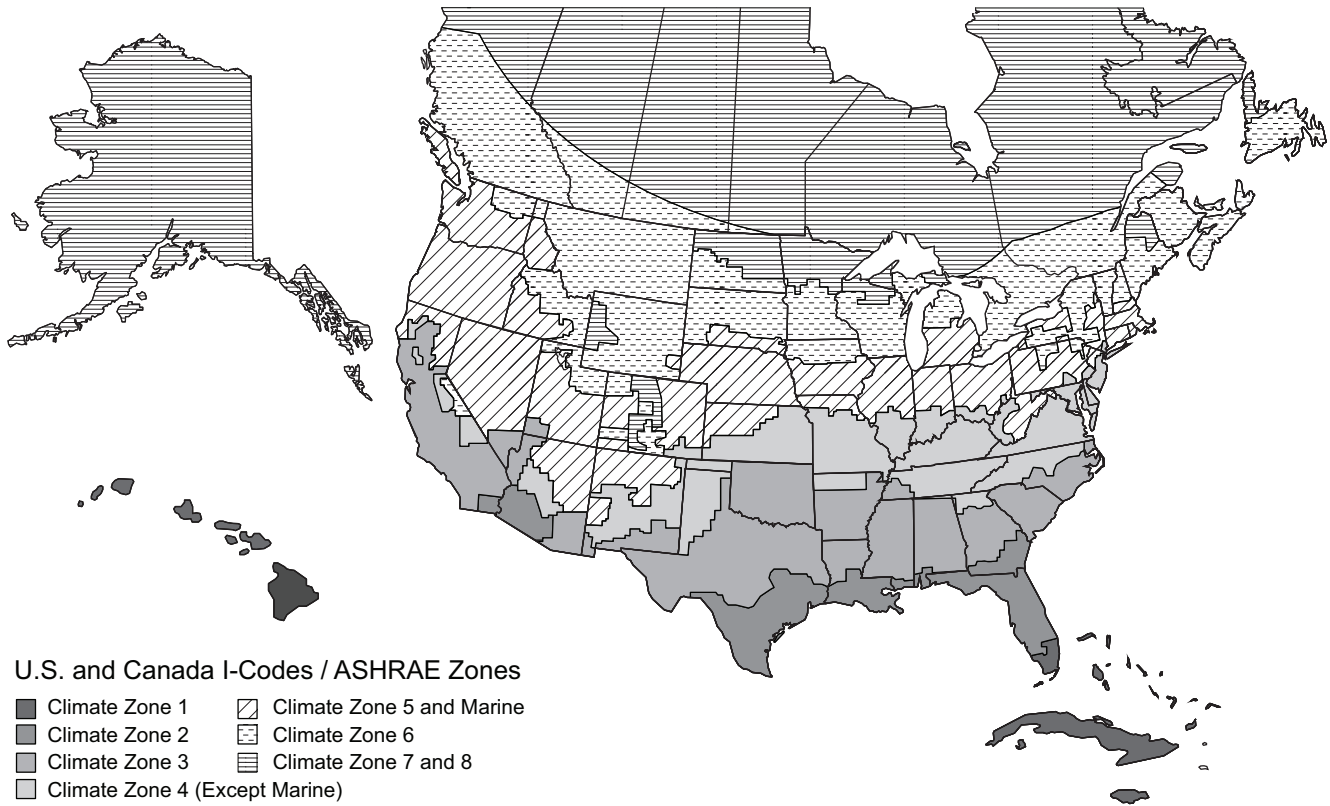

Fig. 87 — U.S. and Canada Climate Zones
- a. See Fig. 87 for map of U.S. and Canada climate zones.